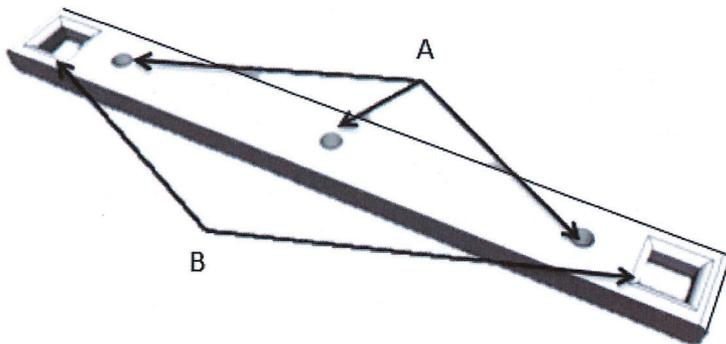

Figure 1
The Hurley Picket Anchor System anchor plate (Figure 1) is constructed of an aluminum alloy with an anodized coating. The plate consists of three precision-machined picket guide holes (A) and 2 strap/sling attachment points (B). The picket guide holes are spaced 12 inches apart (one-third of the recommended picket insertion depth) to maximize efficiency.